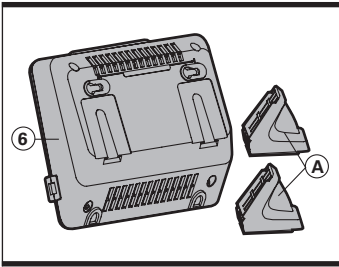

Fig 1-1
6. CHARGER (SEE FIG 1-1)
2. Install the charger stands (See Fig.1-1, 1-2, 1-3)